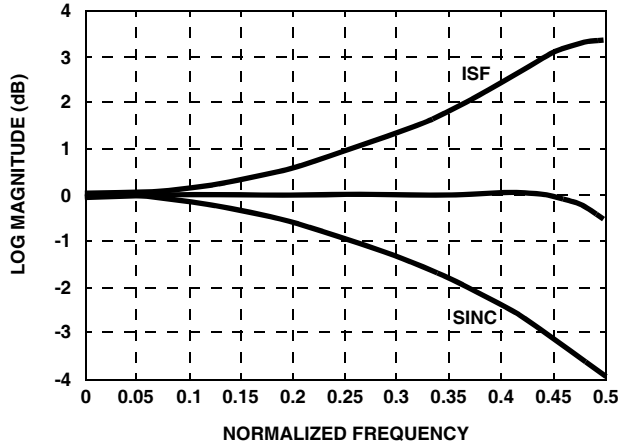

FIGURE 18. X/SIN(X) FILTER RESPONSE
The output is rounded to 16-bits. The output of the filter is not checked for saturation since the maximum sum of products is 486/512 (0.949) and overflow will never occur. The data exits the X/SIN(X) filters as a parallel I<15:0> and Q<15:0> data streams at the final sample rate. Figure 18 plots of the inverse sinc function, sinc function, and the effect of compensation.